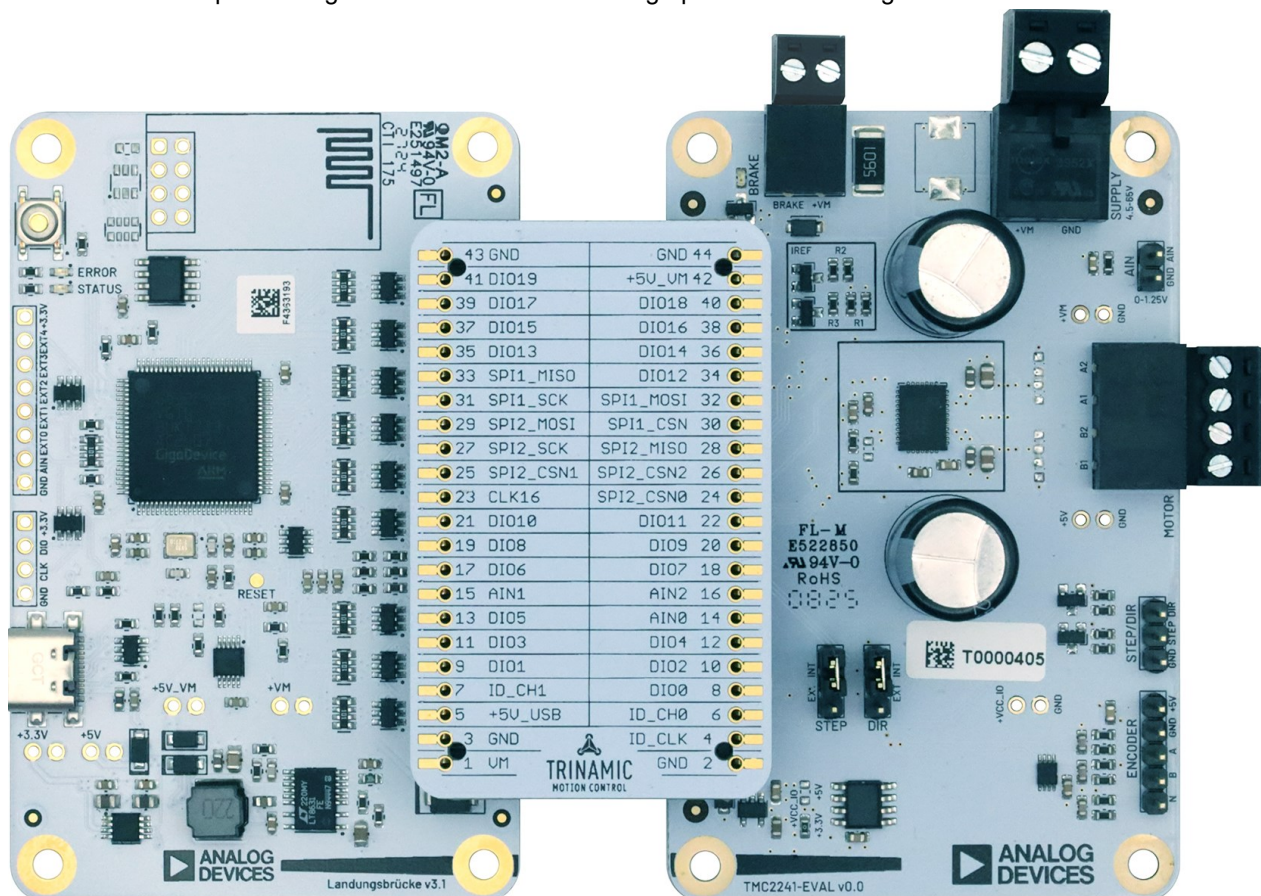

Figure 1. Assembled TMC2241-EVKIT
1. Interface the TMC2241-EVAL with the Landungsbruecke through the Eselsbruecke bridge board as shown in Figure 1. While connecting the boards together, both the Landungsbruecke and the TMC2241-EVAL must not be powered. Make sure that every pin in the connector is connected to its corresponding header. The working area is nonconductive to prevent shorting pins on the back side of the boards.